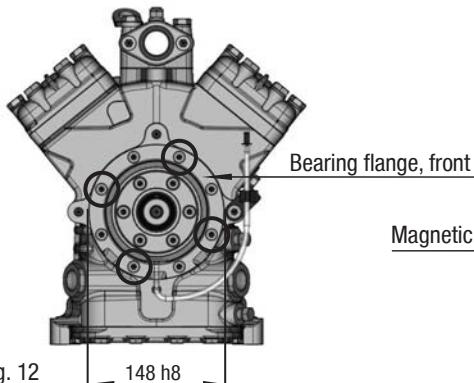

Fig. 12
- To absorb the magnetic field of the electromagnetic clutch, the front bearing flange has a snug fit $\emptyset 148 \text{ h8}$ (see Fig. 12).
- To connect the magnetic field, loosen the 4 cheese head screws M8 on the bearing flange (see Fig. 12).